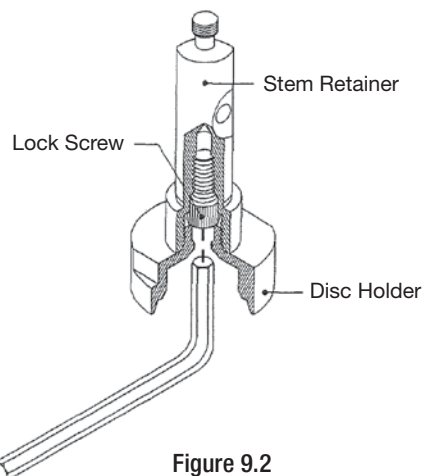

Figure 9.2
8. Thread the **Lock Screw** [19] into the **Stem Retainer** [14]. (**Figure 9.2**)